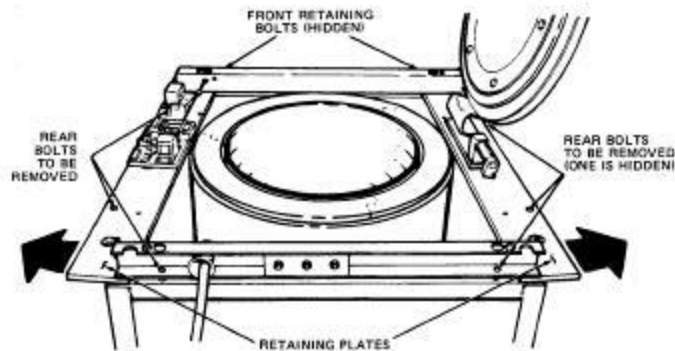

Figure 11-12. Upper Retaining Plates
10. Pivot the upper retaining plates. Figure 11-12, as follows: